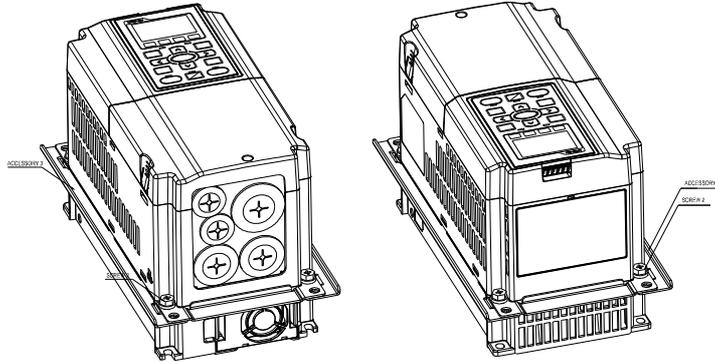

Figure 3
3. Install accessory 2&3 by fastening 2 of the screw 2(M6) (figure 3). Screw torque: 25~30kg-cm (21.7~26lb-in).